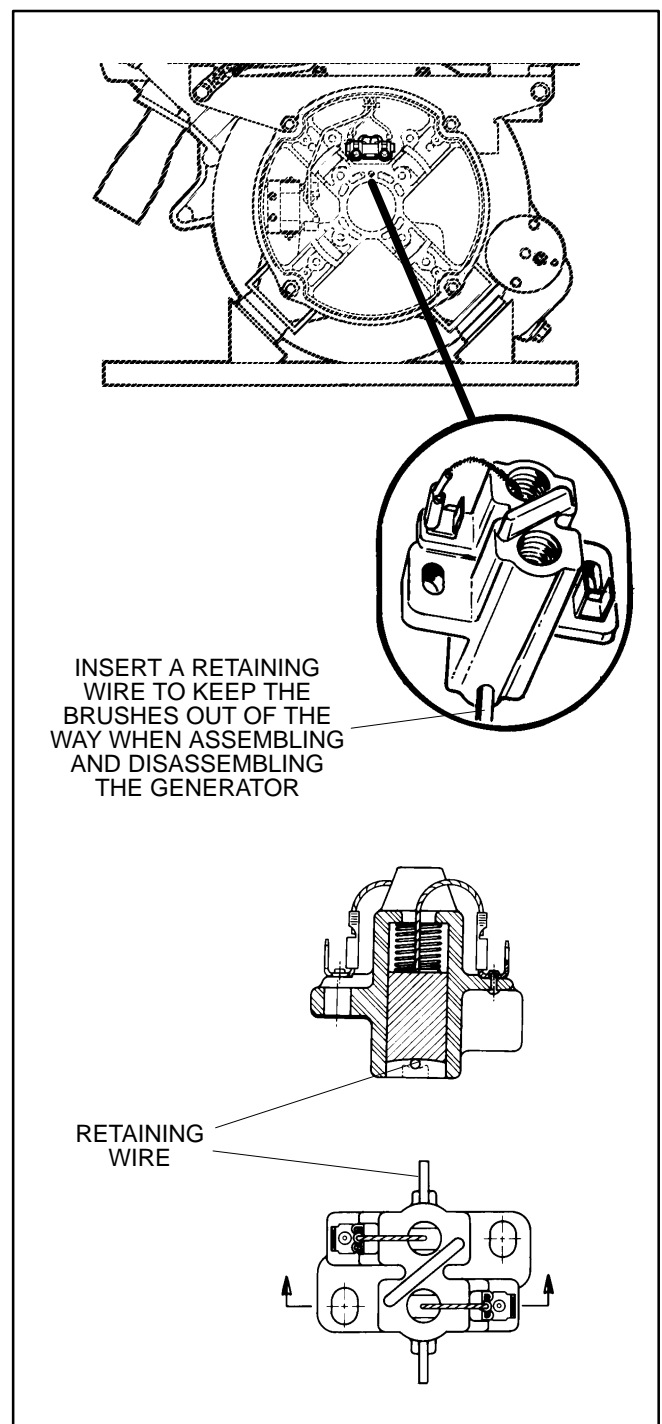

FIGURE 8-5. BRUSH BLOCK ASSEMBLY
- B. Insert a stiff wire into the small hole in the end of the stator housing to hold the brushes up and out of the way (Figure 8-5). To do this, first pull both brush pigtails to lift the brushes off the slip rings.